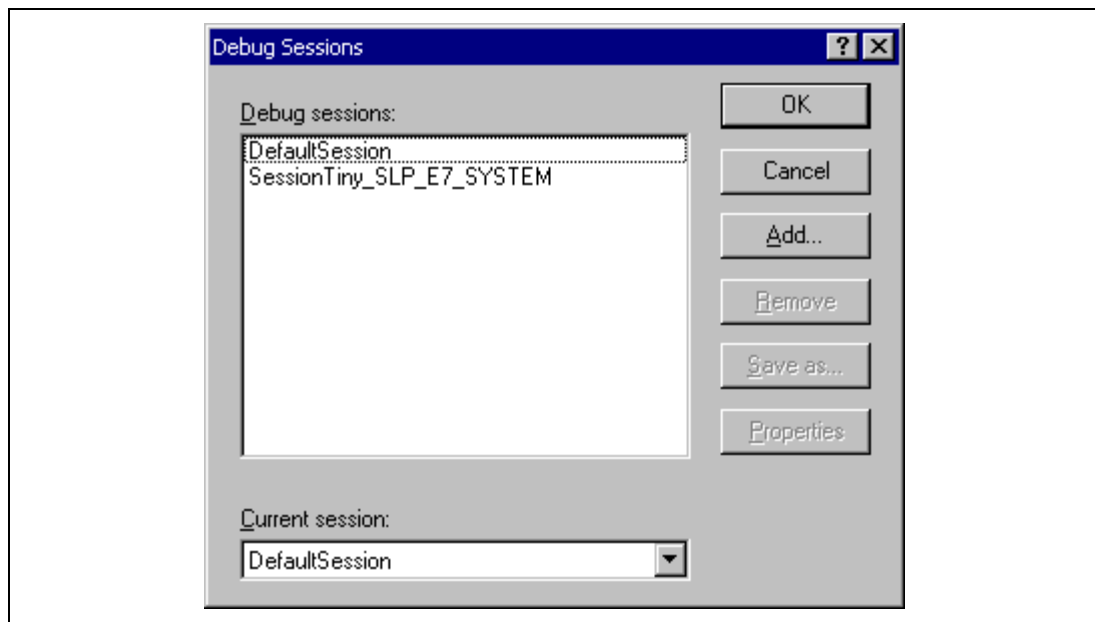

Figure 4.17 [Debug Sessions] Dialog Box
1. Select [Options -> Debug Sessions...]. This will open the [Debug Sessions] dialog box (figure 4.17).
1. Select [Options -> Debug Sessions...] to display the [Debug Sessions] dialog box (figure 4.17).